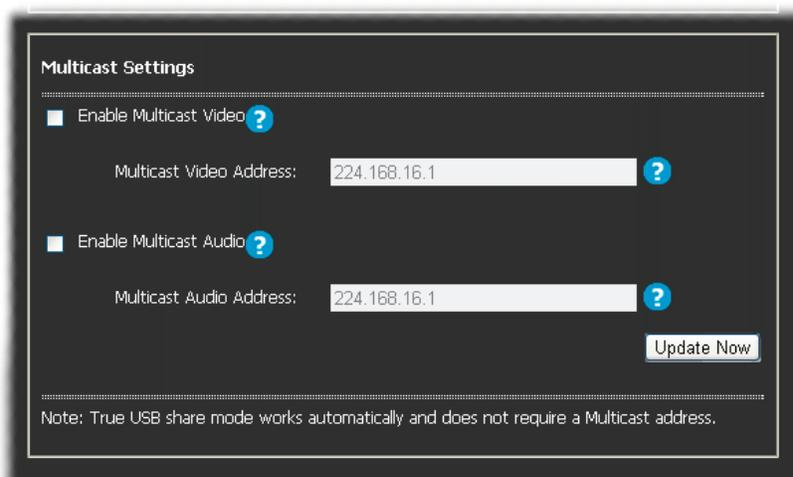

Figure 4-9. Multicast settings.
- 6 For installations that will include more than one remote receiver unit, for either video or audio or both, then you need to configure the Multicast Settings section. See Figure 4-9.